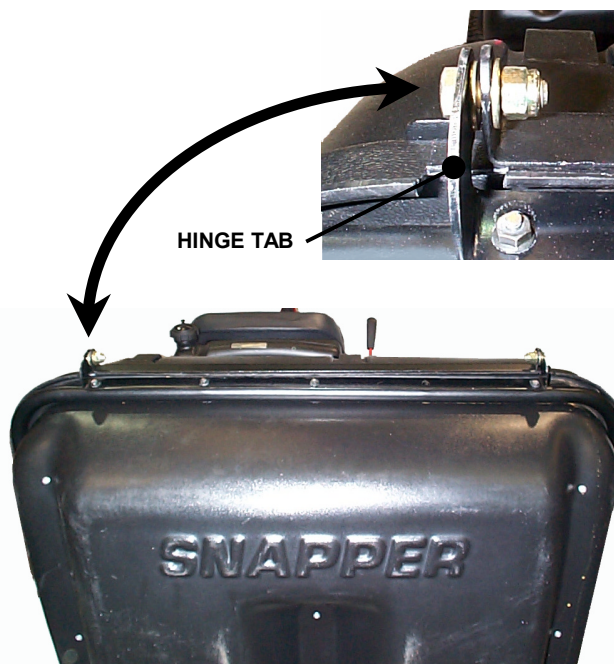

FIGURE 1.7
- A. Place Rear Cover Assembly on Front Cover Assembly aligning holes in hinge tabs. Place one 3/8" flat washer between the two left Hinge Tabs and insert 3/8-16 x 1" hex head bolt. See Figure 1.7. Add 3/8" flat washer and secure with 3/8-16 Top Lock nut. Do not over tighten. Hinge must pivot freely.